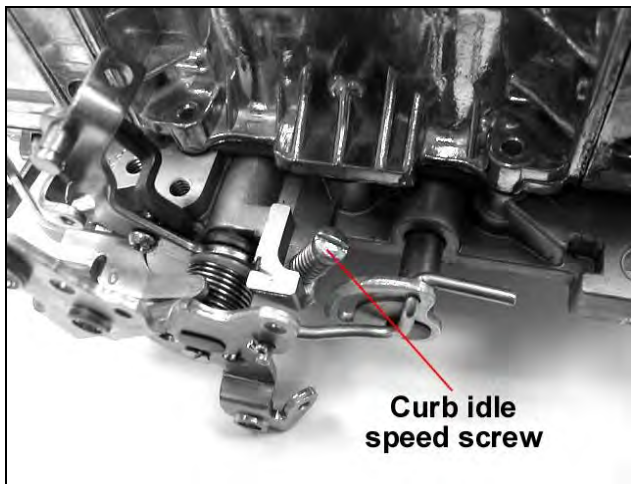

Figure 8
3. Now that the idle mixture is set, it may be necessary to go back and reset the idle speed using the curb idle speed screw, as shown in Figures 8.